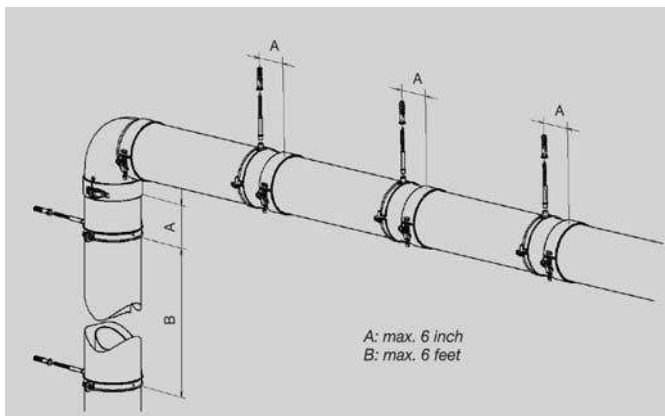

Figure 4.2 Bracket supporting
6. Brackets must be fixed as follows, see figure 4.2:
- 6a. Straight vent sections that are installed vertical must be supported with brackets every 6 feet (2 m) or less, see figure 4.2, dimension B.
- 6b. Straight vent sections installed with a slope must be supported with at least one bracket per section, this brackets must be installed at a maximum distance of 15 cm (6 inch) from the female end, see figure 4.2, dimension A.